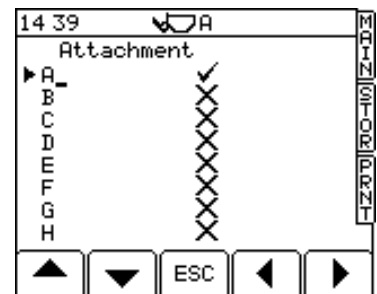

Figure 26
2. Press the  key (fig. 25) to select the "Attachment" screen (fig. 26).